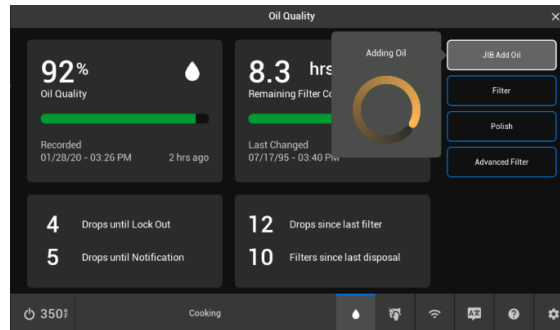

Figure 76 – Adding Oil
- Click and hold the **JIB Add Oil** button to add oil **Figure 76** (will fill for about 10 seconds)